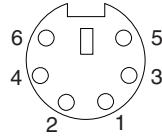

Figure 14. BladeCenter T Keyboard connector
- **Keyboard connector:** The BladeCenter T KVM module contains one PS/2 keyboard connector (see Figure 14).